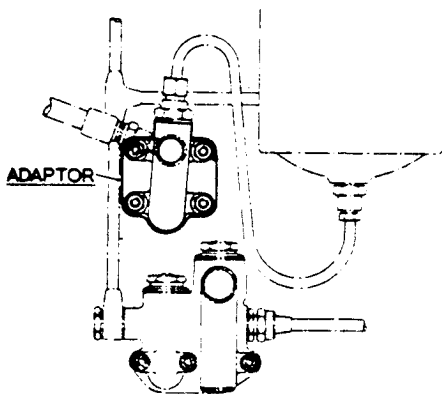
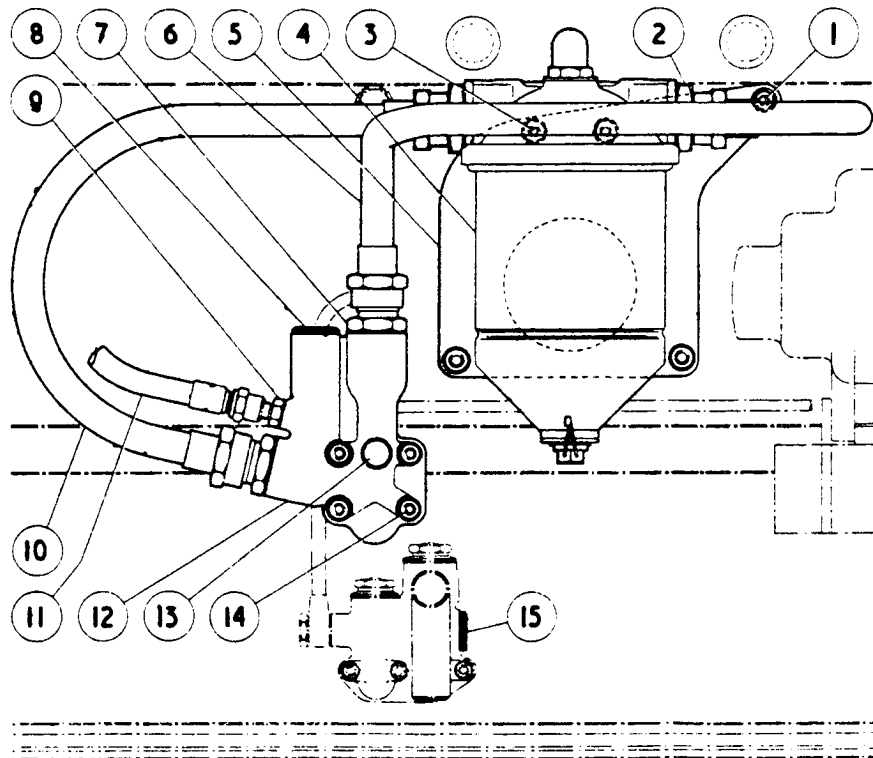

FIG.1. ADAPTOR-OIL FEED (EARLIER TYPE)
FIG. 3. FRONT ELEVATION - FULL FLOW OIL FILTER.
The crankcase casting was altered for this purpose, the vertical passage to the gallery being diverted to the lower orifice of a new "external" facing approximately 3"(76mm) above the oil relief valve unit; the upper orifice in this facing communicating with the gallery. The pipes leading to and from the Vokes filter, and also the oil pressure gauge pipe, are connected to an adaptor mounted on the facing. Fig.3 illustrates the external layout, but depicts a Vokes E-62 filter (centre bolt lid fixing) which is now used instead of the E-30 type (six bolt lid fixing).
SCHEME 'A' conforms to the layout shown in Fig.3, and is relatively simple in installation, being confined to external alteration only. It can be applied to engines, the crankcase of which have the adaptor facing referred to above. Generally speaking, this modification to the crankcase was first introduced at the commencement of 'H' series to provide a means of employing full flow filtration on unit test, and in anticipation of the scheme becoming standardised later. Crankcases of this type may be recognised by reference to Figs. 1 & 2, which show special adaptors used in conjunction with the original By-Pass Filters.
3. INSTRUCTIONS FOR FITTING: (REFER TO FIG.3)